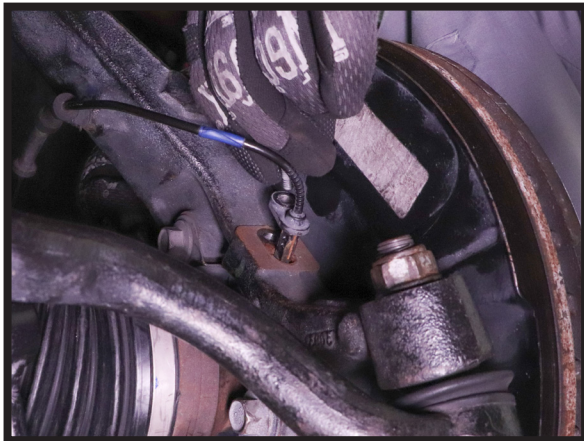

FIGURE 35
8. REINSTALL SPEED SENSOR AND TIGHTEN TO MANUFACTURER'S SPECIFICATIONS. REROUTE THE SPEED SENSOR WIRE ALONG THE BRAKE LINE PATH, CLIPPING THEM SECURELY. (FIGURES 35, 36, 37)